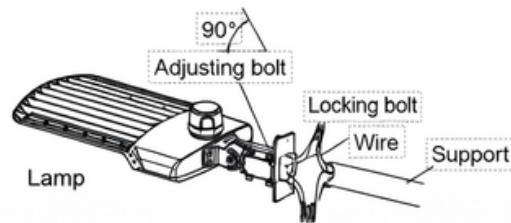

Figure 14
Step 2: Loosen the four bolts on ADM bracket, connect the wires correctly and pull the wires into poles. (Figure 14)
Notice: Adjustable angle is 0-90°(Figure 14)